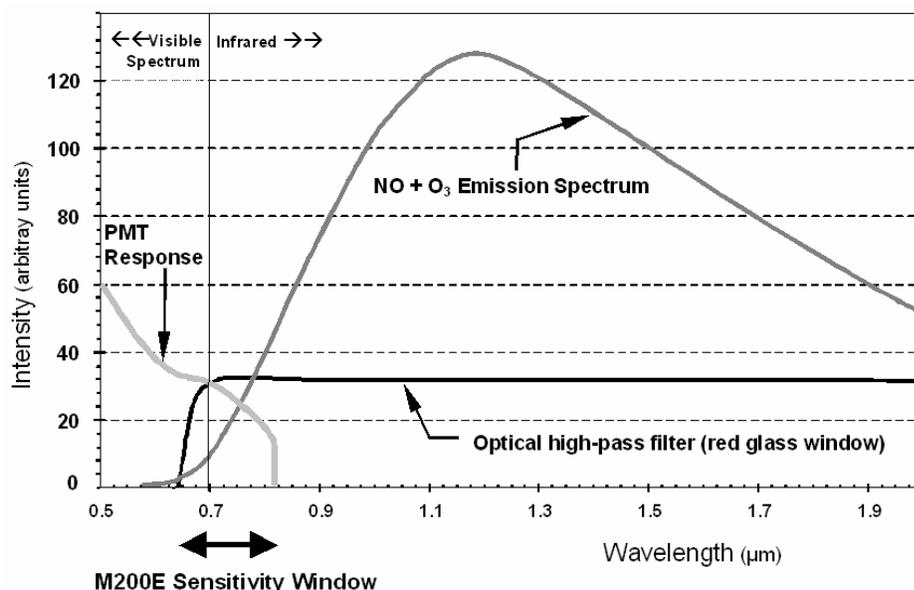
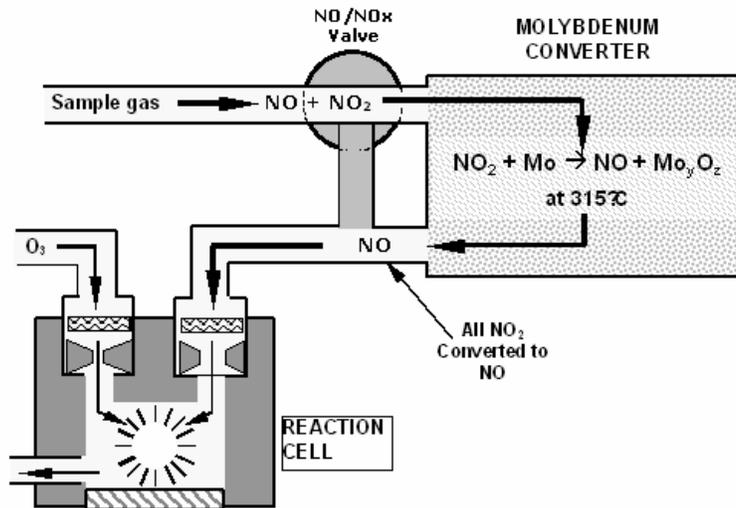

Figure 10-1: M9110E Sensitivity Spectrum
Figure 10-2: NO_2 Conversion Principle
Thermodynamics requires that systems seek the lowest stable energy state, hence, the NO₂ molecule quickly returns to its ground state in a subsequent step, releasing the excess energy in form of a quantum of light ($h\nu$) with wavelengths between 600 and 3000 nm, with a peak at about 1200 nm (Equation 10-2, Figure 10-1).
All things being constant, the relationship between the amount of NO present in the reaction cell and the amount of light emitted from the reaction is very linear. More NO produces more light, which can be measured with a light-sensitive sensor in the near-infrared spectrum (Figure 10-1). In order to maximize the yield of reaction (1), the M9110E supplies the reaction cell with a large, constant excess of ozone (about 3000-5000 ppm) from the internal ozone generator.
Another critical component in the method by which your M9110E detects chemiluminescence is the optical filter that lies between the reaction cell and the PMT (Figure 10-2). This filter is a high pass filter that is only transparent to wavelengths of light above 645 nm. In conjunction with the response characteristics of the PMT, this filter creates a very narrow window of wavelengths of light to which the M9110E will respond (Figure 10-1).